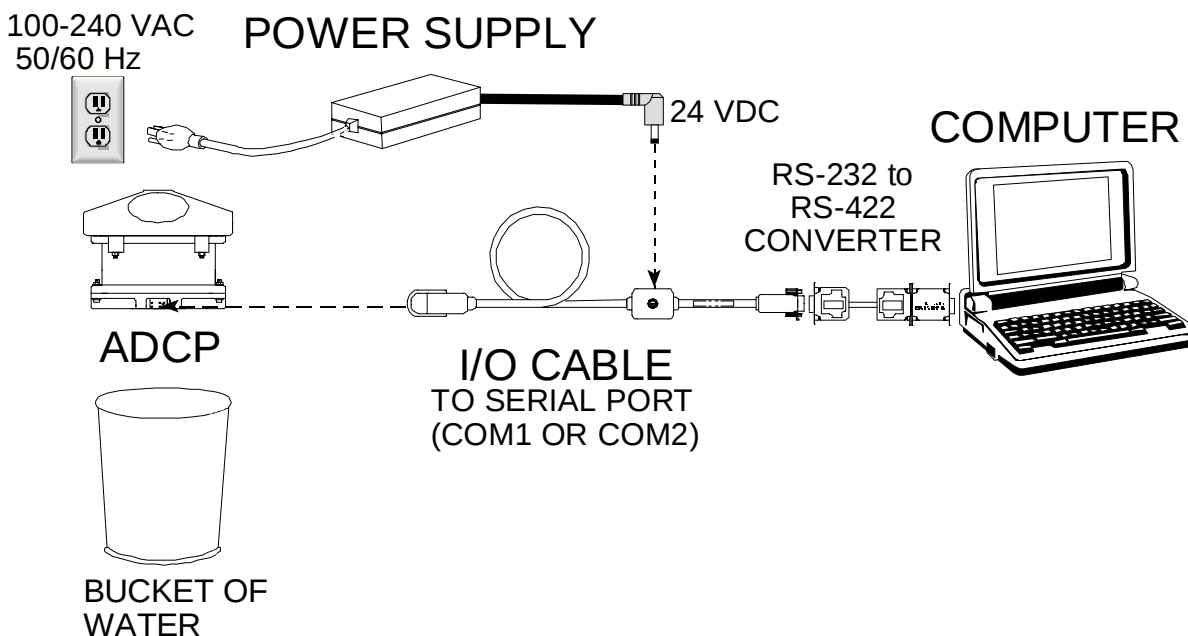

Figure 1-6. Monitor Workhorse Connections
- Use Figure 1-6 to connect the Workhorse I/O cable and the computer.
- a. Set up the Workhorse as shown in Figure 1-5, page 1-6 (Sentinel) or Figure 1-6, page 1-7 (Monitor).